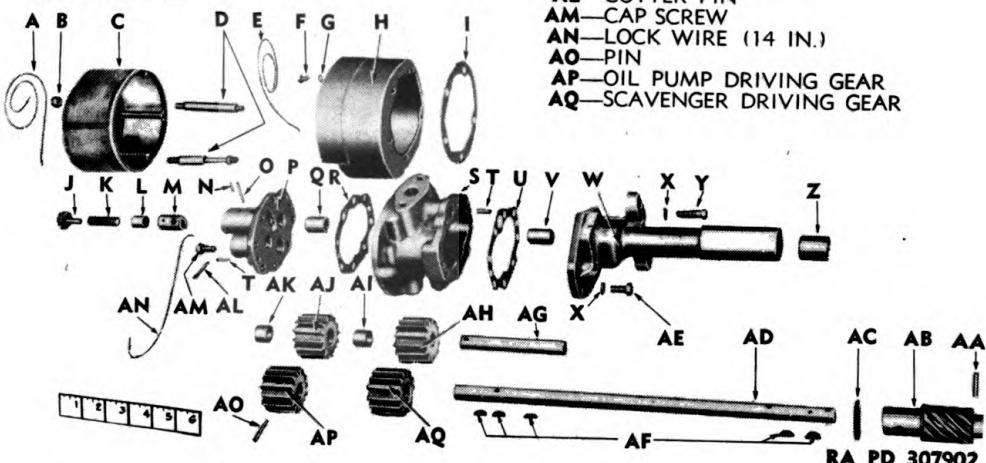

Figure 95 — Oil Pump Assembly Disassembled
(6) REMOVE AND DISASSEMBLE OIL RELIEF VALVE. Remove the cotter pin that runs through the slotted head of the relief valve adjusting screw (fig. 95). Remove adjusting screw from valve housing. Lift out valve spring. Shake plunger out of housing. NOTE: *It may be necessary to drive the short straight pin, that holds the valve bushing in position, into the open valve body, and shake it out before the plunger may be removed.* This pin has a slight taper and if too much force is required to drive it through the drilled hole in the casting, drill it out.